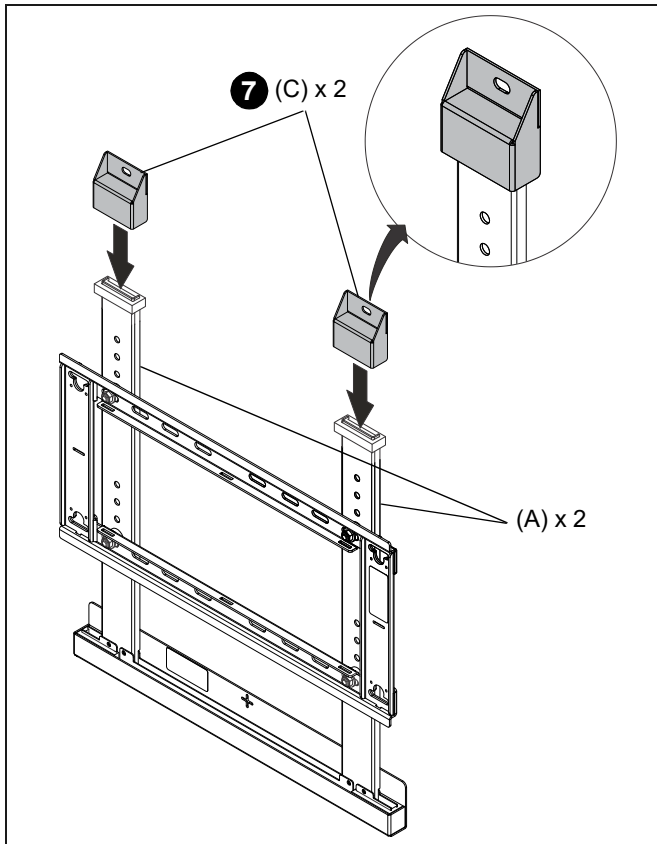

Figure 5
7. Slide two top caps (C) over the upper ends of the vertical brackets (A). (See Figure 5)